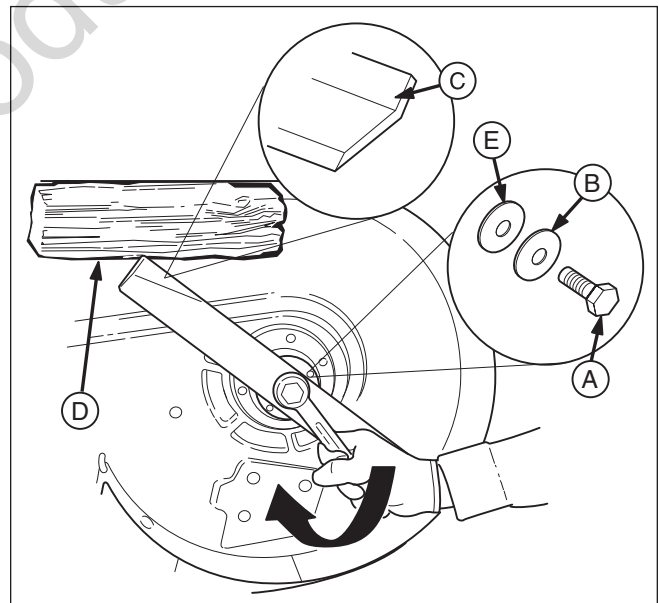

Figure 23. Tightening the Mower Blade for Installation
1. Reinstall each mower blade with the air lifts pointing up towards the mower deck as shown in Figure 23. Wedge a wooden block between the mower blade and the mower deck housing, and secure the mower blade with the mower blade mounting bolt, hex washer and spring washer (A, B & E, Figure 23) and torque to 45-55 ft. lbs. (61-75 Nm).